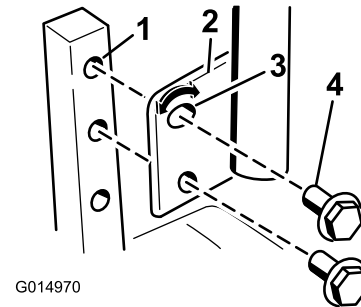

Figure 28
1. Remove the 2 bolts holding the control lever to the control arm shaft (Figure 28).
2. Move the control lever to the next set of holes. Secure the lever with the 2 bolts (Figure 28).
2. Loosen the lower bolt just enough to pivot the control lever fore or aft (Figure 28). Tighten both bolts to secure the control in the new position.